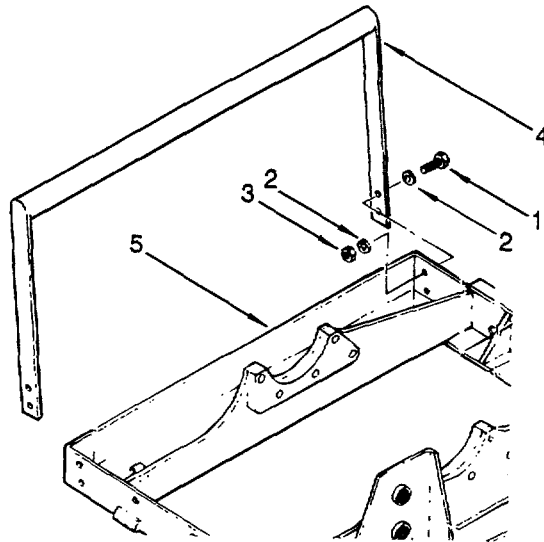

Figure 4-12. Engine Module Carrying Handle Replacement
4.13.1 Replace Carrying Handle. (Refer to figure 4-12.)